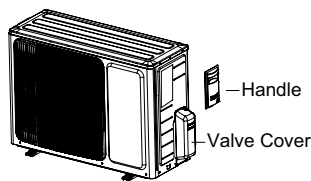

Fig.21
- (1) Remove the screw on the right handle and valve cover of outdoor unit and then remove the handle and valve cover.(As show in Fig.21)